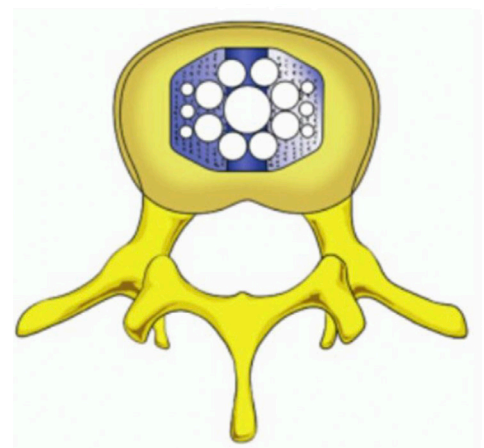

Fig. 7a
- After implantation, the implant placement is examined by X-ray fluoroscopy, and the anterior lumbar spreader is removed once the position is confirmed to be accurate (Fig. 7a).